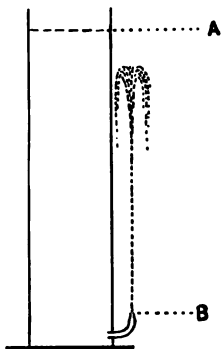

Fig. 74.
Exp. 102. — Fill a receiver, having a large bent glass tube passing through perforated cork, and drawn out, as shown in Fig. 74, with water, keeping finger on orifice *B*. Remove finger, the jet from orifice rises nearly to the level of *A*. Three resistances prevent the jet from reaching *A*: (1) resistance of the air, (2) friction at orifice and in pipe, (3) the water that falling from highest point reached, meets the rising globules. The vertical distance *BA* from the center of the discharging orifice to the surface of the source is called the “head.” Did you ever see any one underestimate the velocity of a “spouting liquid” when the head was great?